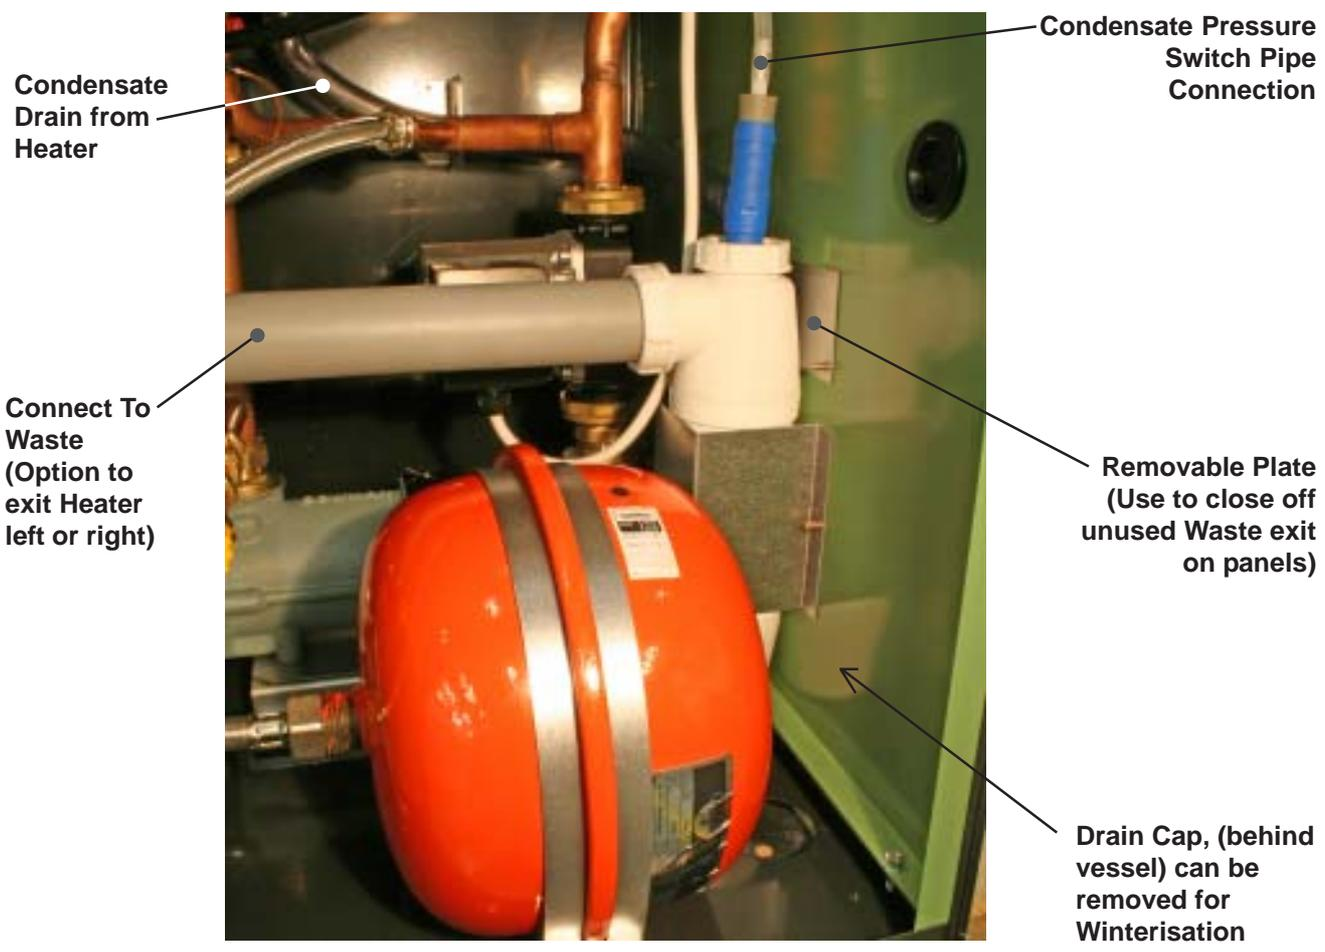

Fig.7.1
- Fit blanking plate to the right hand side. (**See Fig 7.1**)